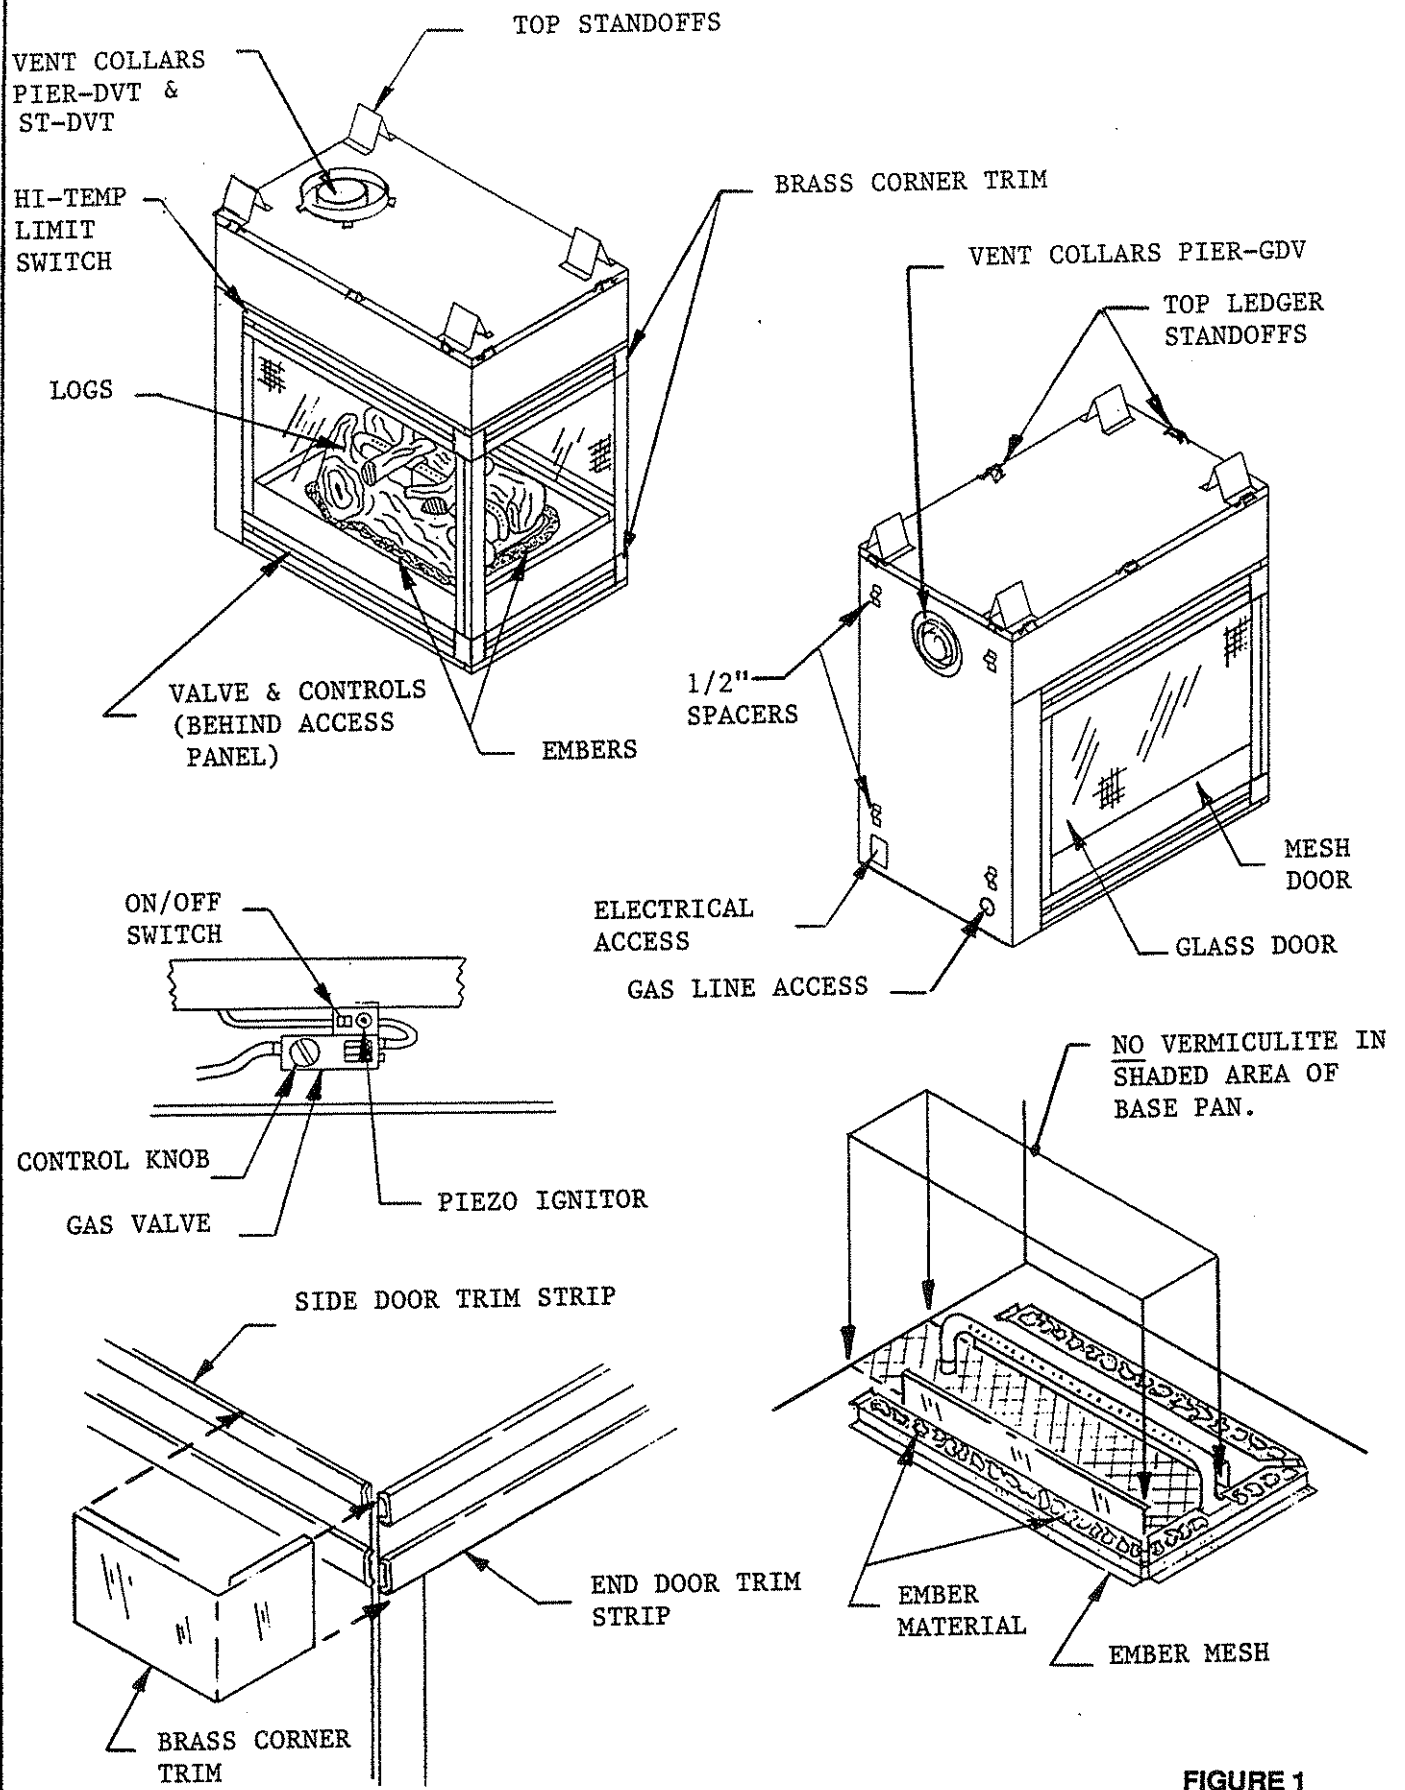

FIGURE 1
The control system for this model is a millivolt type. It consists of a gas control valve/regulator, a standing pilot assembly, a thermopile, a piezo ignitor, an ON/OFF rocker switch, and a safety high temperature limit switch. An ON/OFF Wall Switch (WSK-21) and instructions for wiring it to the control system are also included with the unit. The controls are located in the lower compartment behind the trim door of the fireplace. Access to this compartment is gained by rotating up the bottom panel of the trim door. See Figure 1.
To install the logs, vermiculite, and burner ember material, remove the front (control side of the unit) mesh trim and glass door assemblies. Remove the top and bottom brass corners of the mesh door first, by sliding them out of the brass trim strips on the mesh doors (See Figure 1). Lift the mesh door off the retaining pins to remove it. See SECTION 5.1 for glass door removal.
Open the bag of vermiculite and spread it evenly on the bottom of the firebox making sure not to block the air hole at the base of the burner or the air hole in the center of the base pan beneath the burner (See Figure 1).
**CAUTION:** No vermiculite can be present in the center cut-out area between the lower burner tubes (See Figure 1).
**INITIAL SET-UP:** Alternately place a single layer of dime size and shape pieces of Golden Ember (GE-93) and Glowing Ember (050-721) onto the top of the lower burner ember screen. See Figure 1.